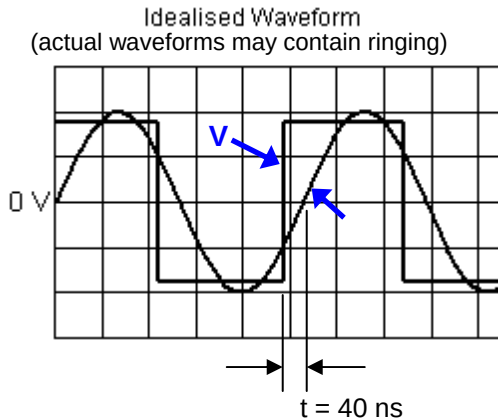

Figure 7: Current Lagging Voltage
- (c) While monitoring the RF current and voltage, ensure that the RF current lags the RF voltage by at least 40 ns (see Figure 7).